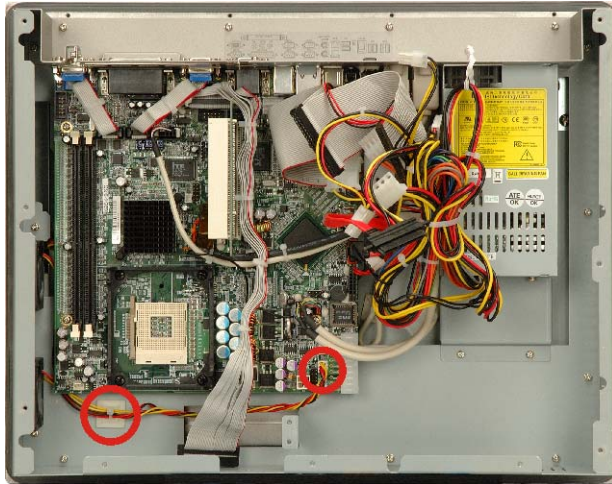

Figure 4-13: System Cooling Fans Motherboard Connector
- Step 3:** Remove the plastic tie that bundles the fans wires together and disconnect the system cooling fans from the motherboard (**Figure 4-13**).